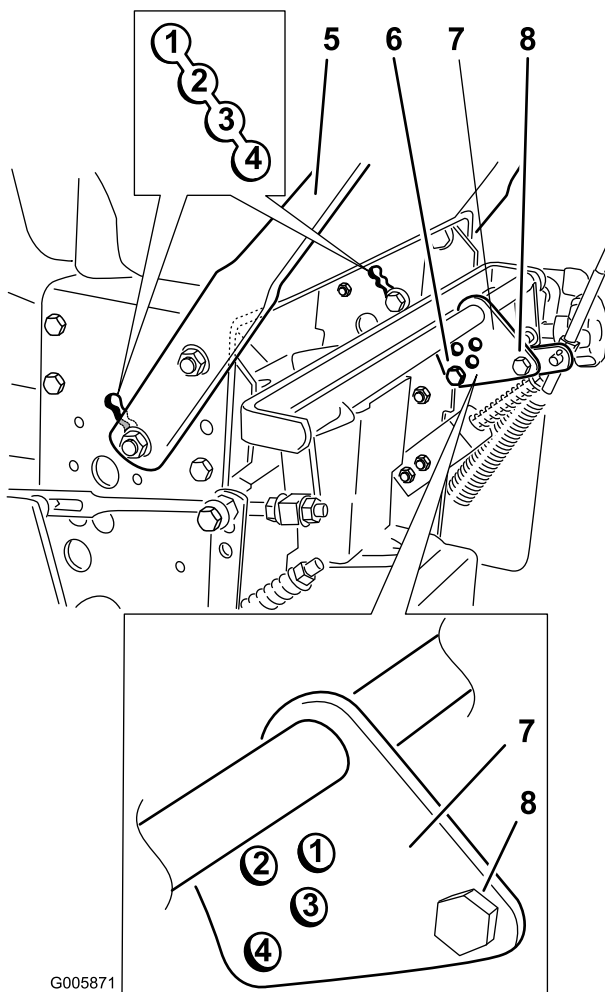

Figure 19
8. Note what hole the handle was installed (Figure 19).
9. Install the front bolt into the corresponding hole that was used for the handle height (i.e. with the handle set to hole number 3, the front bolt in the speed control crank needs to be set to hole number 3) (Figure 19).
10. Tighten the back bolt holding the speed control rod to the speed control crank (Figure 19).